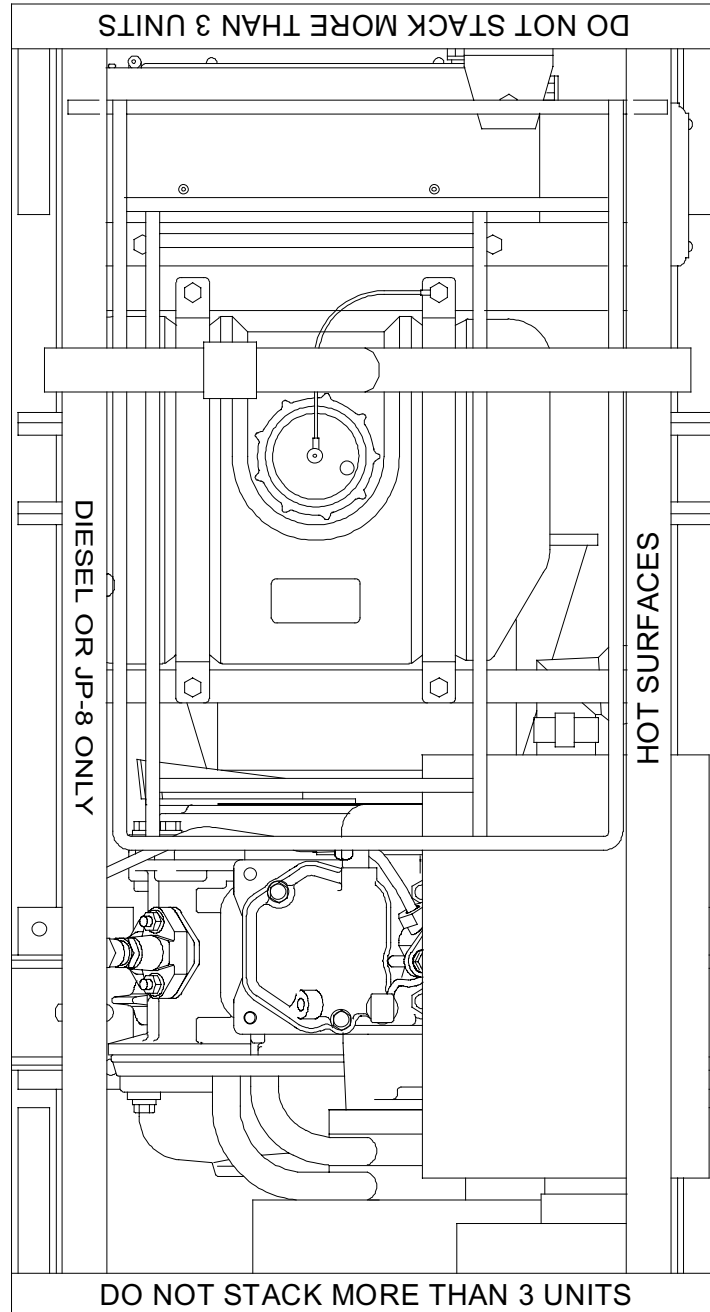

Figure L-5. Fuel Can Bracket Shown in the Stowed Position
- g. Store the fuel can bracket, Item No. 22, as shown in Figure L-5, by securing it with the strap, Item No. 23.